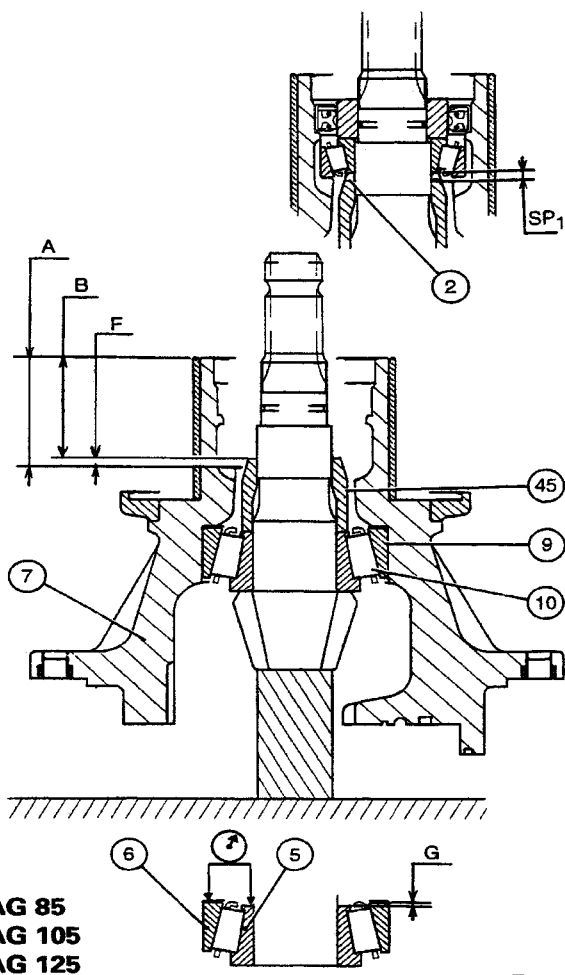

Fig. 13A
45. Place the prepared drive pinion in the housing (7) as shown in Figure 13A or 13B. Rotate the housing through several turns in order to correctly seat the bearing cone (10) in the cup (9). Slide the spacer (45) into position with its chamfered edge towards the splines on the drive pinion.
46. Using a depth gauge, measure dimension 'F' according to the formula: $A - B$ (Fig. 13A or 13B).
47. Press on the cup (6) while turning it alternately to the right and to the left in order to seat it correctly on bearing cone (5). Measure dimension «G» (Fig. 13A or 13B).
48. Determine the thickness **SP1** of shims (2) according to the following formula:
$G - F$: Axles AG 85 - AG 105 - AG 125 (Fig. 13A),